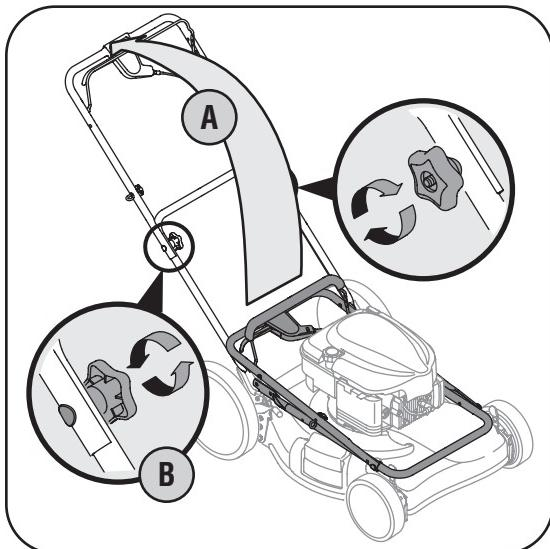

Figure 3-1
a. Pull up and back on upper handle as shown in Figure 3-1. Make certain the lower handle is seated securely into the handle mounting brackets.